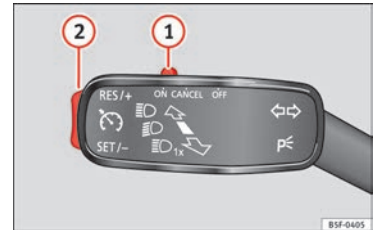

Fig. 49 On the left of the steering column: switches and controls for operating the CCS
- Switching on the CCS: Move switch » **Fig. 49** ① to **ON**. The system is on. If no speed has been programmed, the system will not control it.
- Activating the CCS: Press button » **Fig. 49** ② in the **SET/-** area. The current speed is memorised and controlled.
- Temporarily switching off the CCS: Move switch » **Fig. 49** ① to **CANCEL** or push the brake. The cruise control system is switched off temporarily.
- Reactivating the CCS: Press button » **Fig. 49** ② in **RES/+**. The memorised speed is saved and controlled again.
- Increasing stored speed during CCS regulation: press button ② in **RES/+**. The vehicle accelerates until the new stored speed.
- Reducing stored speed during CCS regulation: press button ② in **SET/-** to lower the speed by 1 km/h (1 mph). Speed is reduced until reaching the new stored speed.
- Switching off the CCS: Move switch » **Fig. 49** ① to **OFF**. The system is disconnected and the memorised speed is deleted.